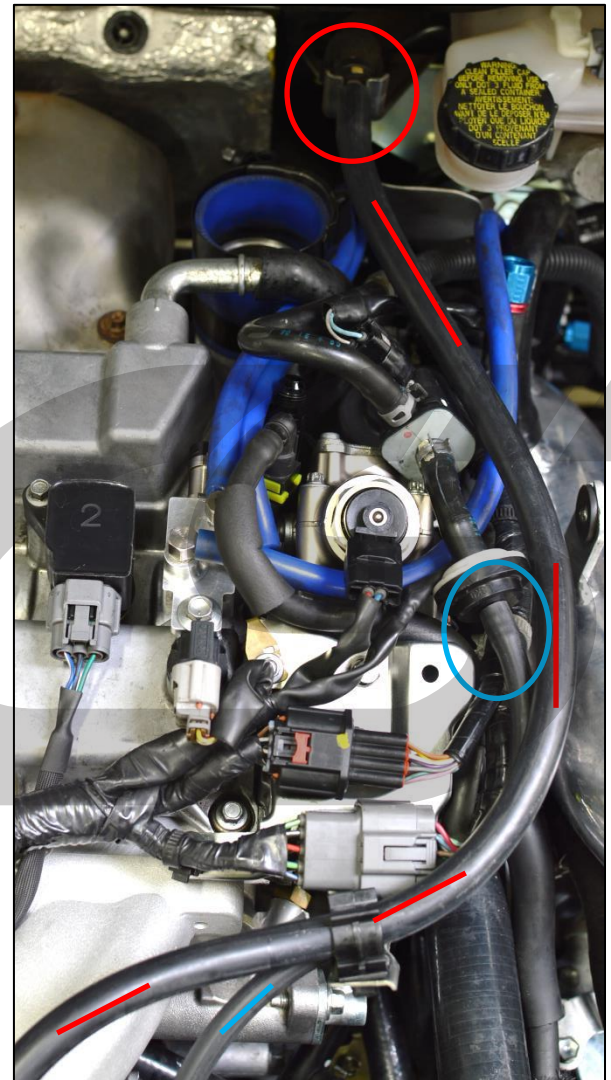

Figure 10b
- b) Route the 1/4" ID hose to the EVAP system that was disconnected on page 11. Shown in Figure 10b.
- d) **MAZDASPEED 3 OWNERS:** Route the 3/8" ID hose to the Brake Booster Port that was disconnected on page 11. Shown in Figure 10b. You will not use the supplied 3/8" Barb to Barb Fitting.